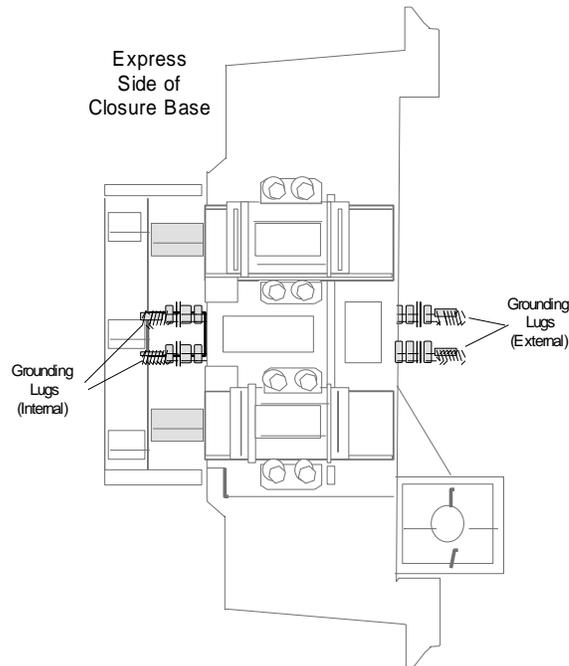

Figure 6 – Internal and External Grounding Lugs
12.01 The CGK Clamp-On Grounding Kit consists of (5) five 9.5-inch (24cm) #8 AWG flexible wires. The internal and external grounding lugs, shown in **Figure 6**, are used to terminate the CGK Clamp-On Grounding kit wires.